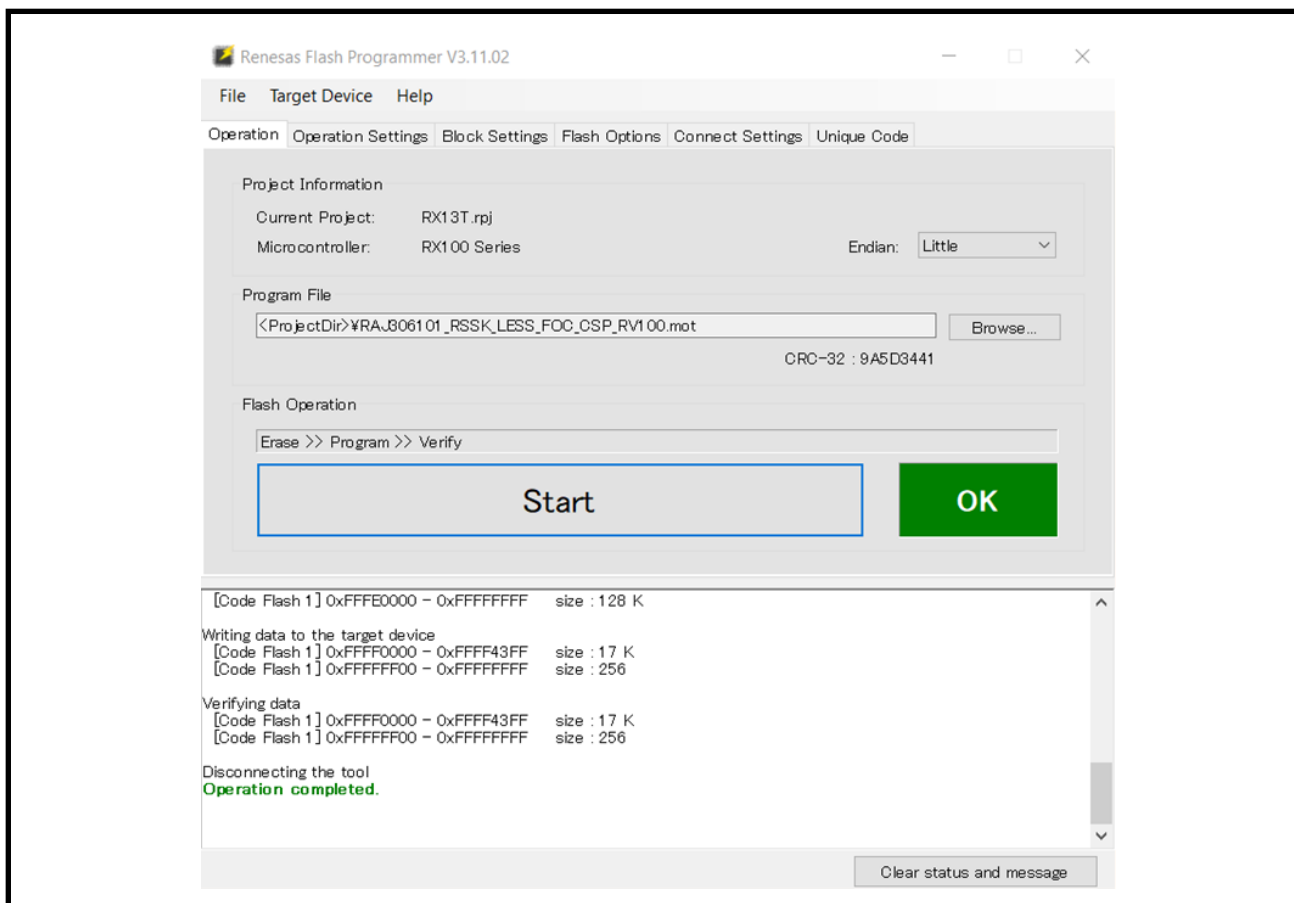

Figure 5-6 Firmware Write (RAJ306101)
3. Select HEX file, then click "Start" in reference to **Figure 5-6** to write firmware.